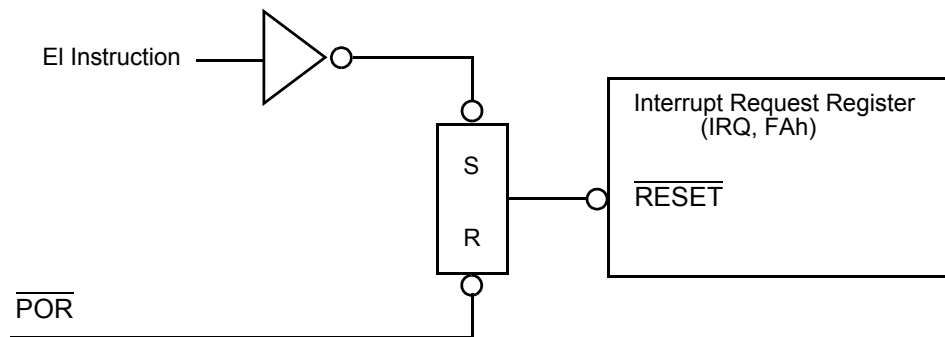

Figure 99. IRQ Reset Functional Logic Diagram
- **Note:** *Setting the Global Interrupt Enable bit in the Interrupt Mask Register (IMR, bit 7) does not enable the IRQ. Execution of the EI instruction is required (see Figure 99 on page 104).*